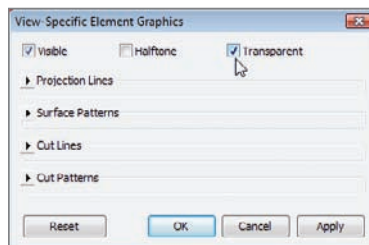

FIGURE 9.11 The View-Specific Element Graphics dialog
5. In the View-Specific Element Graphics dialog, click the **Transparent** button in the upper-right corner, as shown in Figure 9.11.